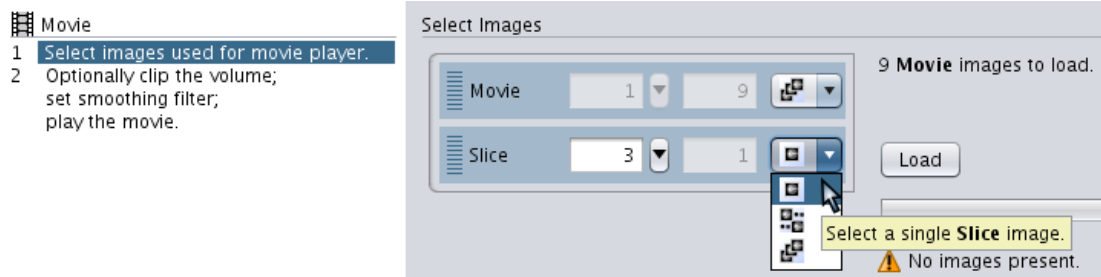

Figure 1.126: Select Images to Include in The Movie
1. On the bottom right of the Movie Player Card, in the image selection dialog, specify the images to include into the movie from the different categories (see Figure 1.126 [▶ 149]). From the drop-down menu, select